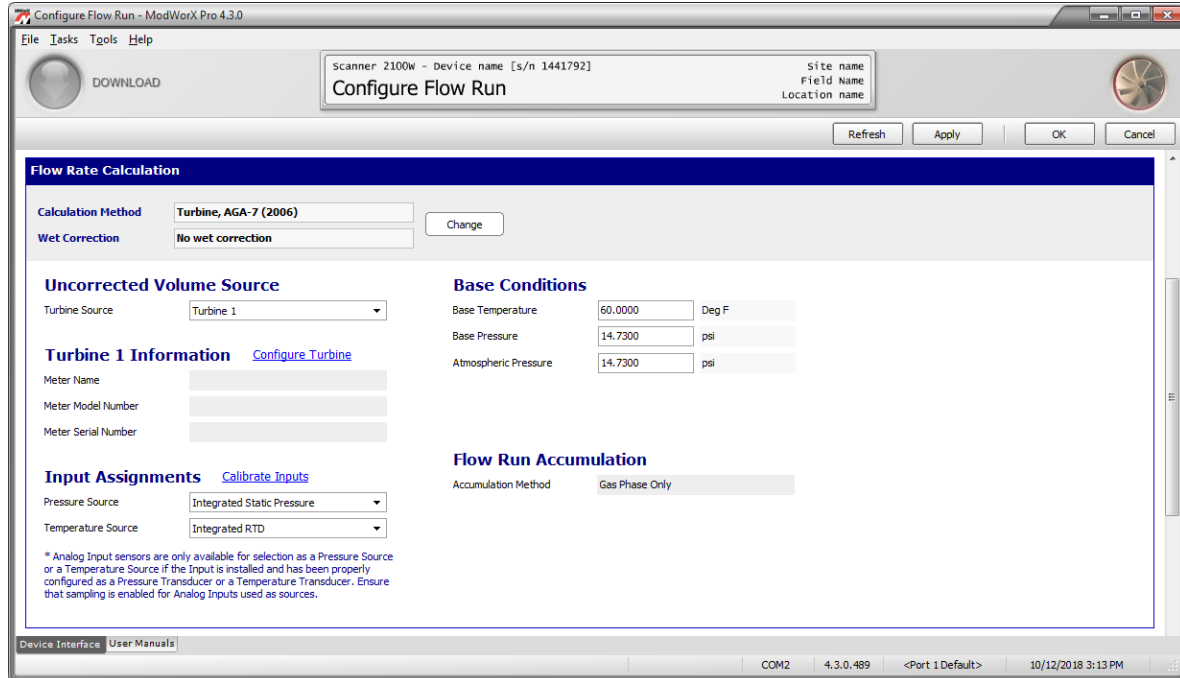

Figure 4.11
1. Under Uncorrected Volume Source, select the turbine source (Turbine 1), as shown in Figure 4.11, page 56. If an optional expansion board is installed in a Scanner 2000 or Scanner 210x, two turbine inputs are available for selection. If a Scanner 2200 is installed, these turbine inputs will be displayed without an additional expansion board.